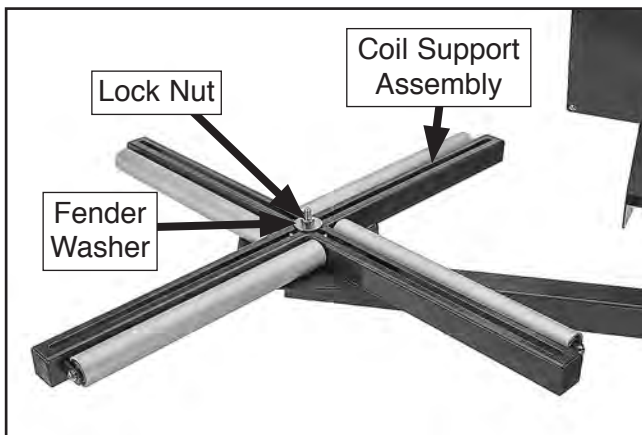

Figure 27. Coil support assembly installed.
- Install coil support assembly on stud and secure with remaining M10-1.5 lock nut and 10mm fender washer (see **Figure 27**).